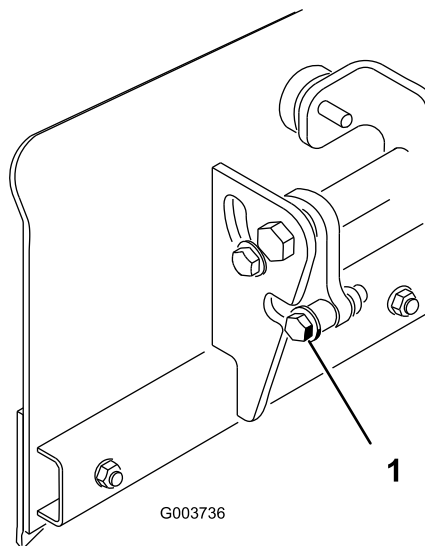

Figure 4
2. Remove the rear stop bolt, washer, and spacer on each side of the blade (Figure 4). Retain the components for installation at a later time.